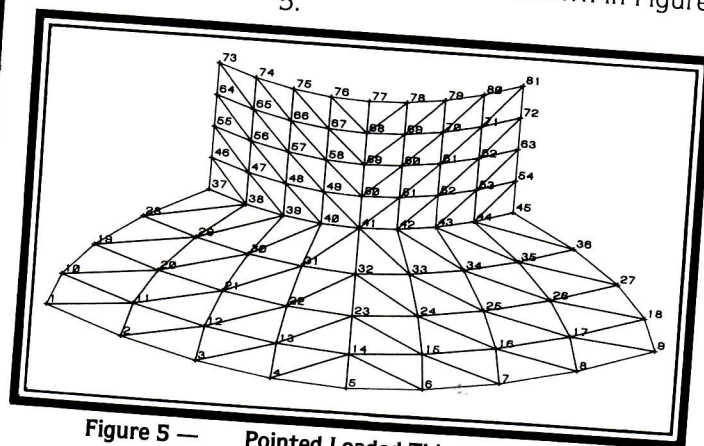

Figure 5 — Pointed Loaded Thin Shell Structure
E) The Shell Element: used to model singly and doubly curved thin sheets which are elastic. These elements are ideal for structural applications, including the analysis of roofs, storage tanks, cooling towers, containment vessels, and other such structures. An example of a shell structural model is shown in Figure 5.